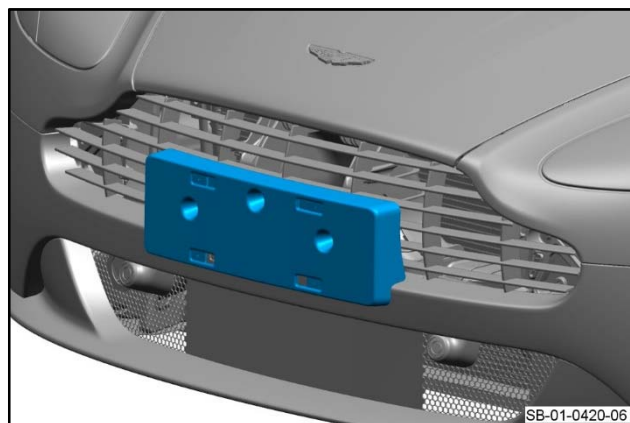

Figure 6
6. Put the license plate plinth into position (refer to Figure 6)